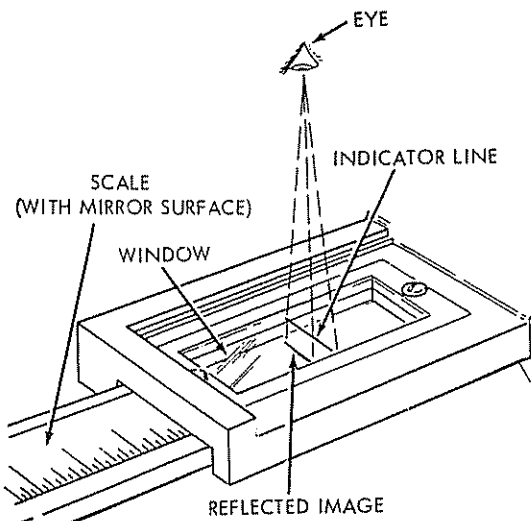

Figure 31
you are sighting squarely above the scale, move your eye until the indicator line and its reflected image coincide. (See figure 31.)
**NOTE:** When properly adjusted, the indicators may be used for most operations, thus eliminating the need for actual measurements, except for extreme requirements. When sighting the indicator, always use the system shown in figure 31 in order to make sure the sight angle is correct.